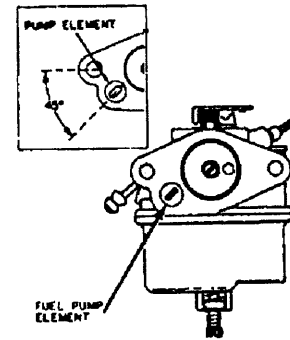

Fig. E2-3—Fuel pump element (4—Fig. E2-2) should be installed at a 45° angle as shown.
The fuel pumping element (4) is a rubber boot which expands and contracts due to changes in crankcase pressure. The pumping element should be installed at 45° angle as shown in Fig. E2-3. Incorrect installation may interfere with pumping action.